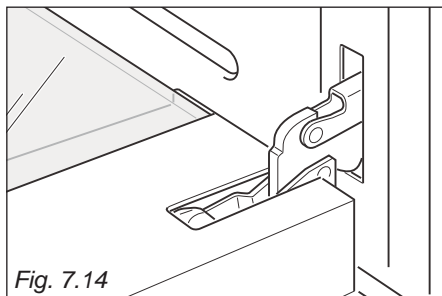

Fig. 7.14
- Open the door to the full extent (fig. 7.14).